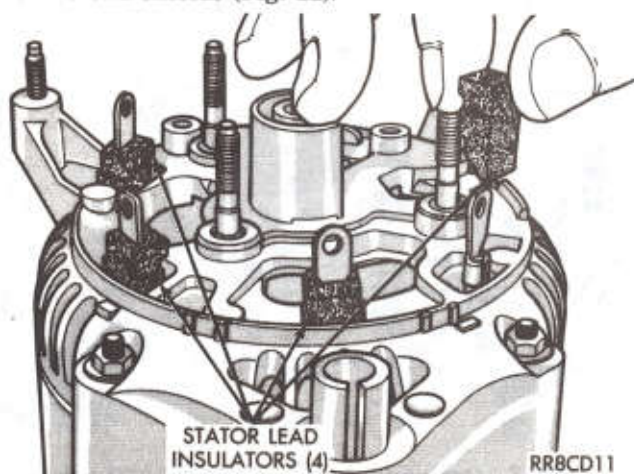

Fig. 10—Remove or Install Insulator
(5) Remove stator terminal rubber (4) insulators (Fig. 10).